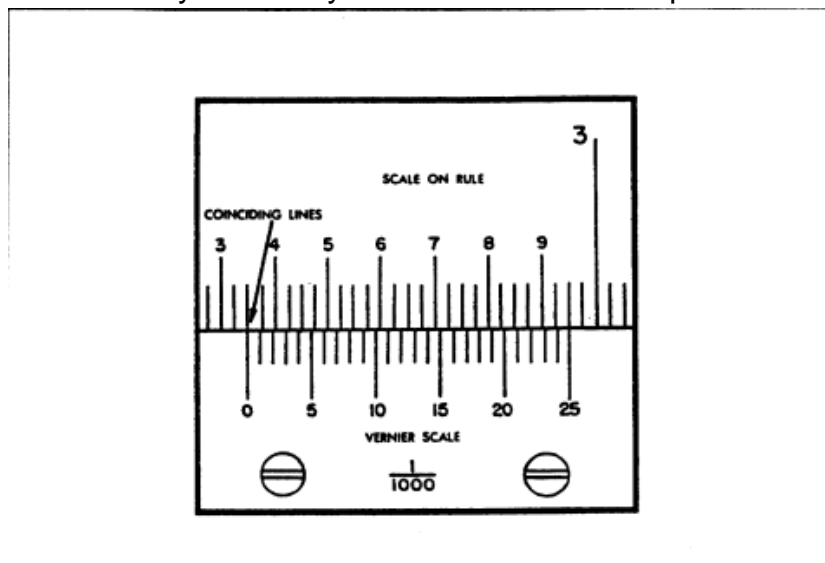

Figure 2
- **Reading a Standard Vernier Caliper:** Example 1 Let's look at two examples of how the relationship of the scales works in an actual measurement. Figure 2, on the next page, shows one example of a scale setting on a vernier caliper. To read this measurement, use the following steps:
Remember, each tenth inch is divided into four parts. Each of these parts equals 0.025 inch. Read how many of these 0.025 inch parts are between the tenths mark you recorded and the zero on the vernier scale. In the example shown in figure 2, there are two of these 0.025 inch parts. Therefore, multiply 2 times 0.025 inch. This equals 0.05 inch. Add this amount to the 2.300 inches you already have. The total now equals 2.350 inches
setting that is almost the same as the one we saw in figure 2. In fact, the first readings will be identical, as shown below: